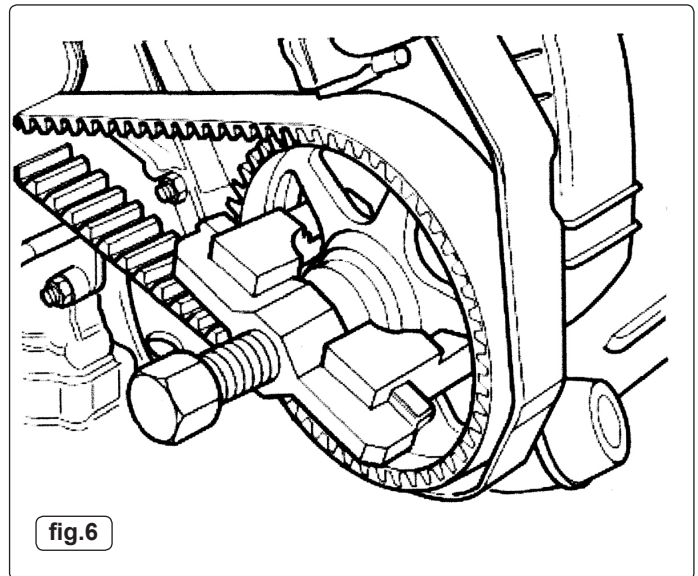

fig.6
- 3.2.7. Once the sprocket bolt is released and unscrewed approximately ½ a turn, pull the camshaft sprocket off its tapered shaft using VS4848 (**fig.6**).